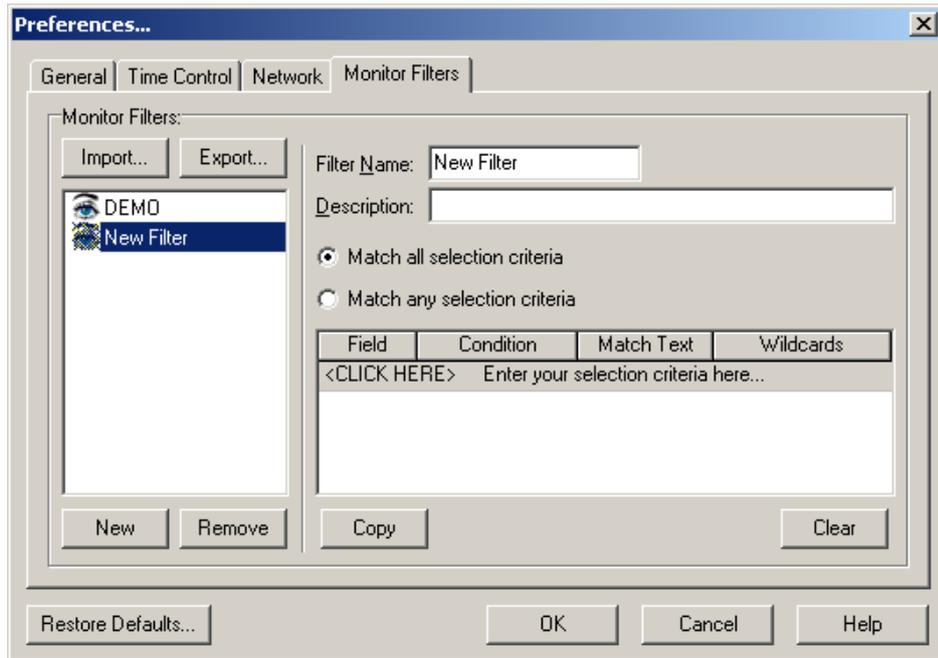

Figure 3
2. Press the **New** button. The Monitor Filters tab changes to let you define a new filter; see Figure 3.